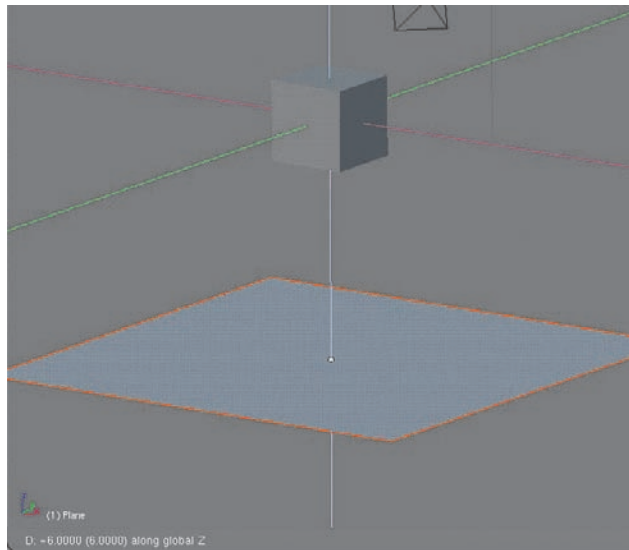

Figure 6.4
2. Translate the plane downward along the Z axis, as shown in Figure 6.4.